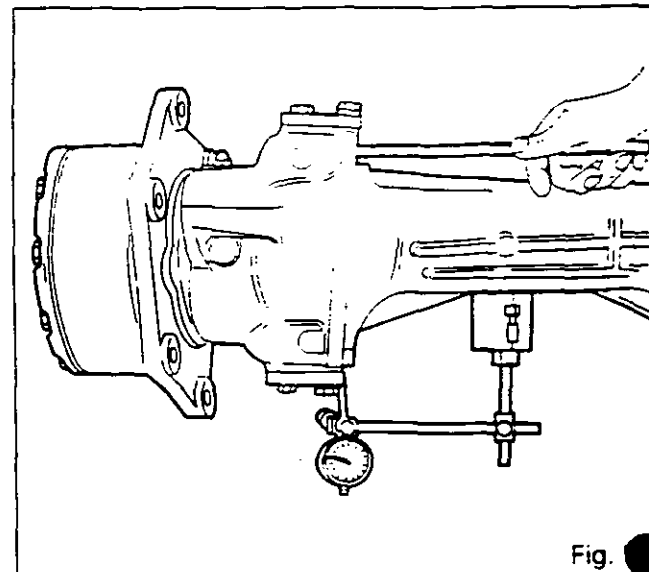

Fig. 5
69. Refit the swivel housing (47). Position the swivel pin (7) provided with O'ring (6) so that the swivel housing assembly is aligned with the axle case (52).
70. Fit the swivel pin (11) provided with O'ring (12), the bearing cup (14), the cover (15). Tighten the bolts (1) evenly and alternately to push the swivel pin (11) into the axle housing. Tighten the bolts to a torque of 91 - 112 Nm.
71. Fit the bearing cup (4), the shims (3), the cover (2). Fit and tighten the bolts (1) in the same way that in operation 70. **Check that the swivel pins (7) (11) are properly in contact with the axle housing.**
72. Remove the cover (2), remove the shims (3). Refit the cover and tighten the bolts to a torque of 91 - 112 Nm.
73. With a dial gauge, measure the axial play using a lever between the axle housing and the swivel housing (Fig. 5).